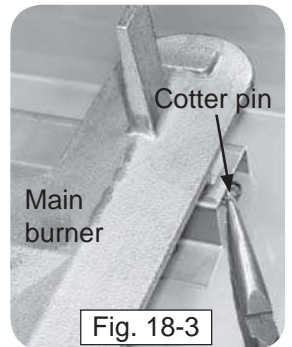

Fig. 18-3
3. Remove the cotter pin from the left or right rear burner anchoring peg by pulling it straight out of the cotter pin hole using fingers or needle-nose pliers (Fig. 18-3).